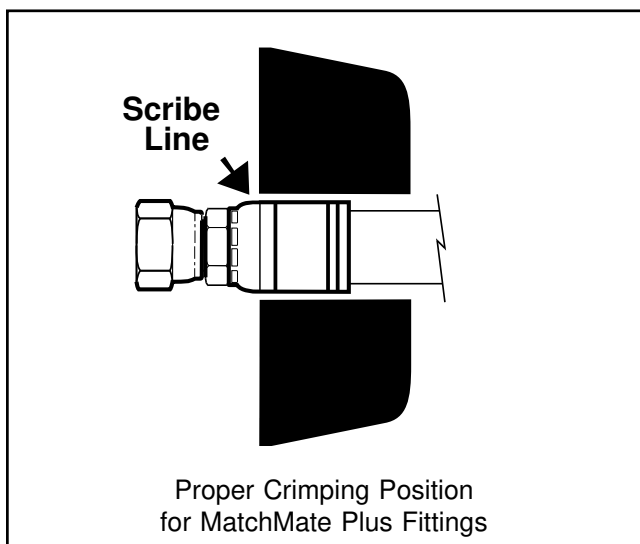

Figure 5
5. Slide the backstop to the desired position. (For Match-Mate Plus fittings refer to Figure 5.)
3. Position the fitting in the crimp die cage according to the corresponding figure in the current Aeroquip Crimp Specifications bulletin. (A MatchMate Plus fitting is shown in Figure 5.)